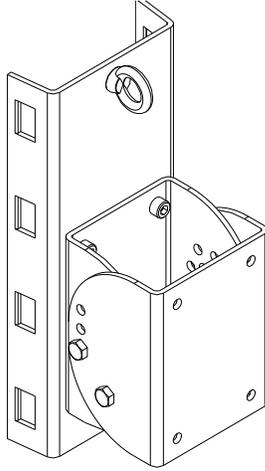
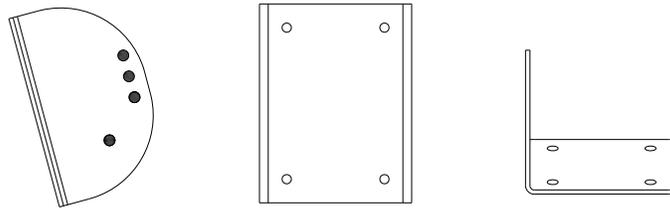
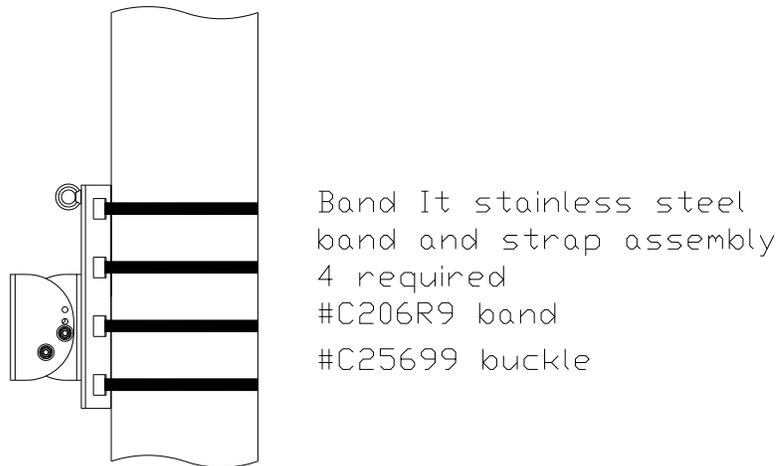

Figure 1
Figure 2
Figure 4
Figure 1 represents the isometric and top views of the pole bracket, including the loudspeaker bracket section. The loudspeaker bracket is shown separately in Figure 2.
1. Mount the pole mount section (see Figure 1) of the bracket to the pole at the desired height on the pole. The loudspeaker bracket shown in Figure 2 should be removed prior to hanging the pole mount section. The bracket is mounted to the pole using BAND-IT stainless steel bands. **DO NOT SUSTITUTE** bands of other material or other widths! There are **FOUR (4)** locations on the pole bracket for bands. **ALL FOUR LOCATIONS MUST BE USED.** Figure 4 illustrates the locations for the stainless steel band clamps.